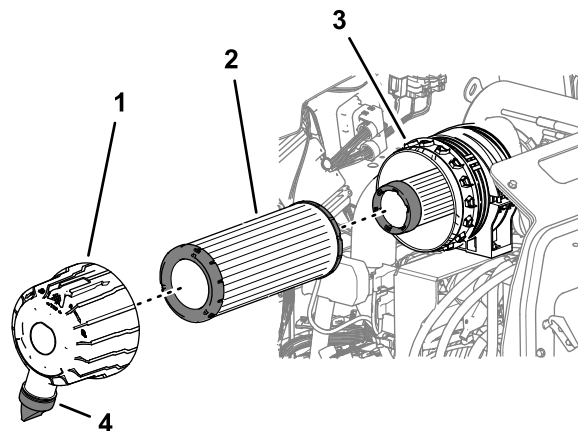

Figure 53
3. Remove the primary air filter (Figure 53).